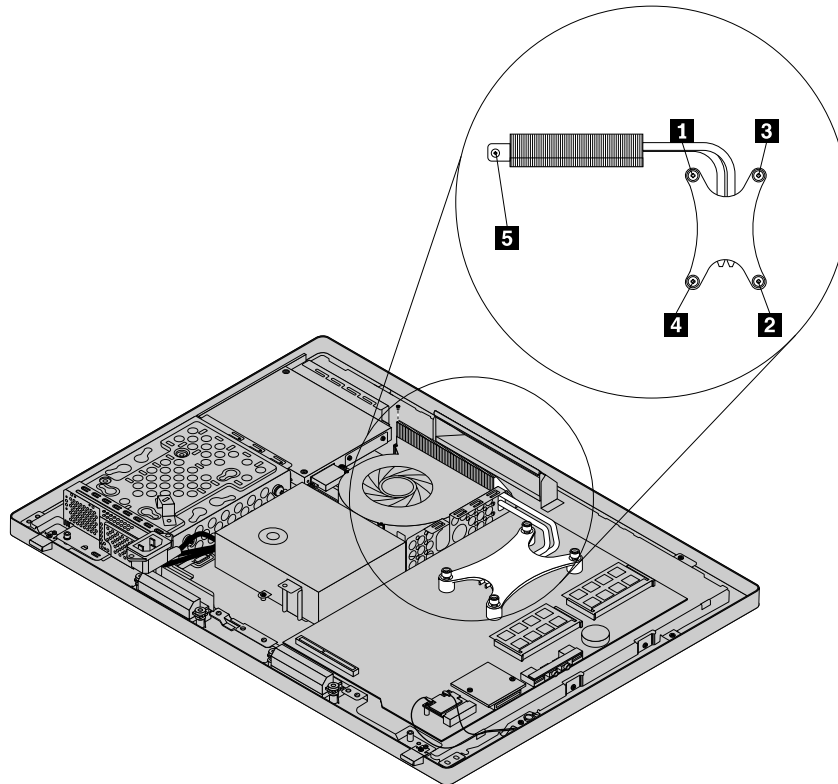

Figure 27. Loosing the four screws that secure the heat sink assembly to the system board
9. Follow the sequence **1**, **2**, **3**, **4** on the heat sink assembly to tighten the four screws to secure the heat sink assembly to the system board, as shown in Figure 27 “Loosing the four screws that secure the heat sink assembly to the system board” on page 93. Install the screw **5** to secure the heat sink assembly to the computer.